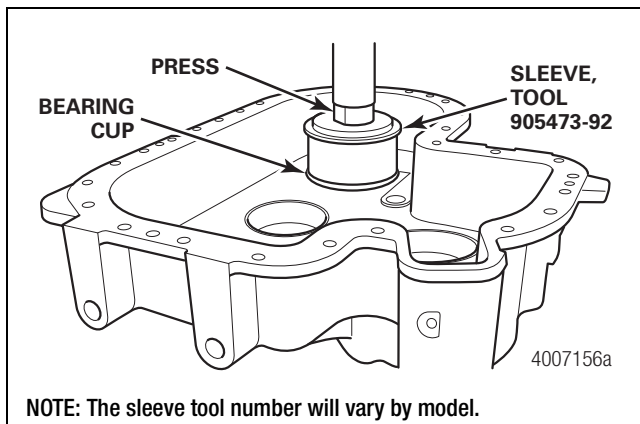

Figure 6.14
- Use a mallet or press and sleeve to install the bearing cups into the bore until correctly seated. Refer to Section 13 to identify the correct sleeve for the model you are servicing. Refer to the end play procedures for initial shim stack up requirements. Figure 6.14.